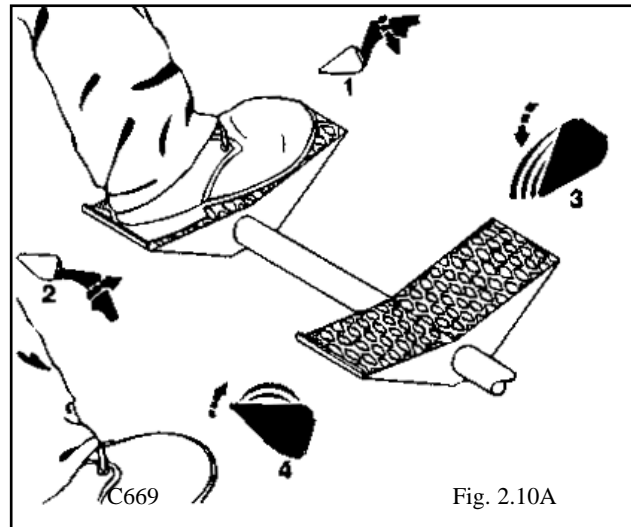

Fig. 2.10A
Operation of the lift cylinders and the bucket tilt cylinders are controlled by the foot pedals (fig. 2.10A) connected to a hydraulic control valve. The hydraulic control valve is a series type valve which allows simultaneous use of both the lift and bucket tilt circuits.
Lift – The L.H. pedal is the lift control (fig. 2.10A). To raise the lift arms press on the heel (2) of the pedal. To lower the lift arms press on the toe (1) of the pedal. Firm pressure on the toe (1) of the pedal will lock the lift arms in float position. This allows the bucket to follow the ground as the loader moves backward.